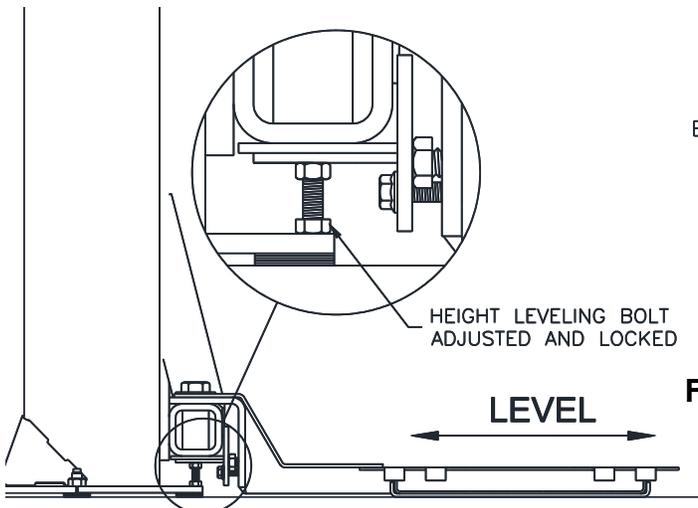

Fig. 9 SETTING THE HEIGHT LEVELING SCREWS
10. Raise and lower the lift just a few inches at a time to find the lowest position of the lift without causing the Pads to become unlevelled. We will not want the lift to lower beyond this point, so unthread the Height Leveling Bolt at each side of the lift until it touches the Column Base Plate, **Fig. 9**. Lock the bolts in place with the Jam Nut.